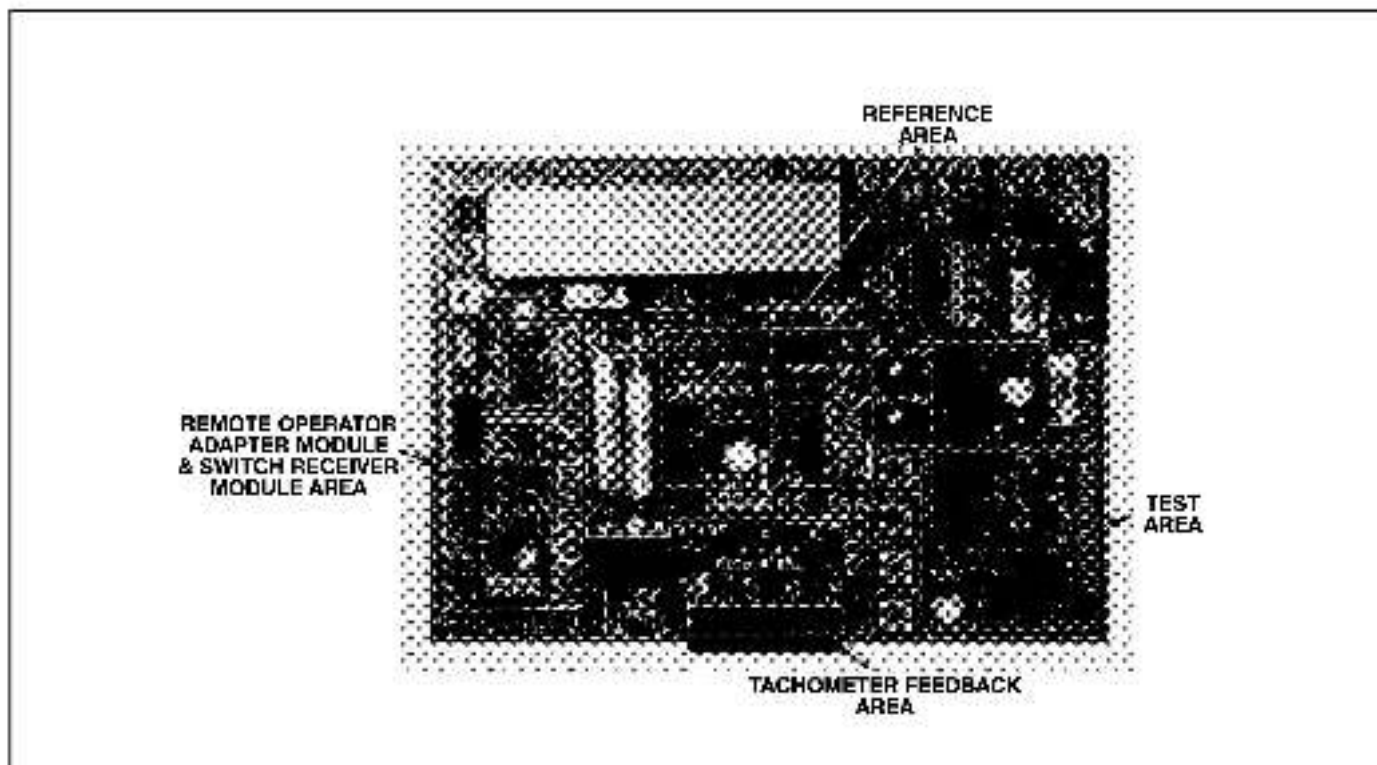

Figure 2 – Regulator Module Kit Locations
1. Orient the Tachometer Module over the designated area of the Regulator Module, just over the two pins. (Refer to Figure 2.) Lower it so that the pins pass through the guides in the Module. Use the screw to secure it.